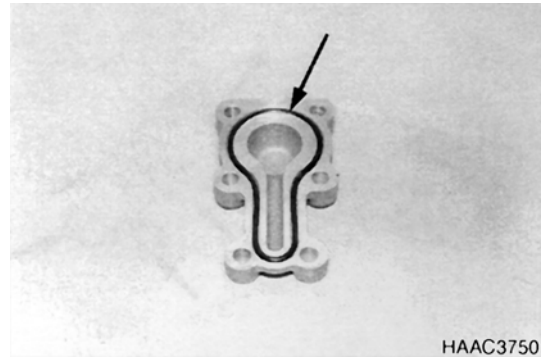

Figure 282
5. Insert O-ring (Figure 282) into the annular groove of the oil feed covers.